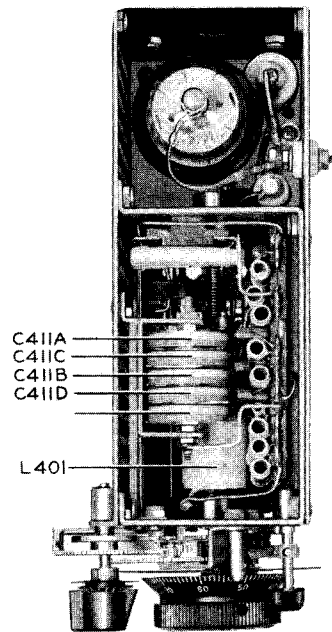

Figure 5-4. Type O-16/ART-13 Low Frequency Oscillator
a. TYPE O-16/ART-13 LF OSCILLATOR ALIGNMENT. (Refer to figure 5-4. and figure 5-5.)
(1) If low-frequency oscillator circuit components have been damaged or replaced, the grid circuit may require realignment. For realignment of the circuit the following procedure should be followed: